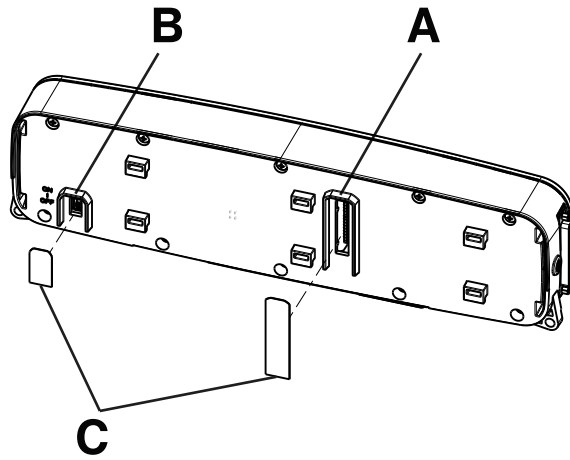

Figure 3 – Switch configuration
4. Using a straight pick, remove and discard the label (521200380902) (C) that covers the **ON/OFF** switch (B) (Figure 3).
5. Turn the **ON/OFF** switch (B) to the **OFF** position (Figure 3).